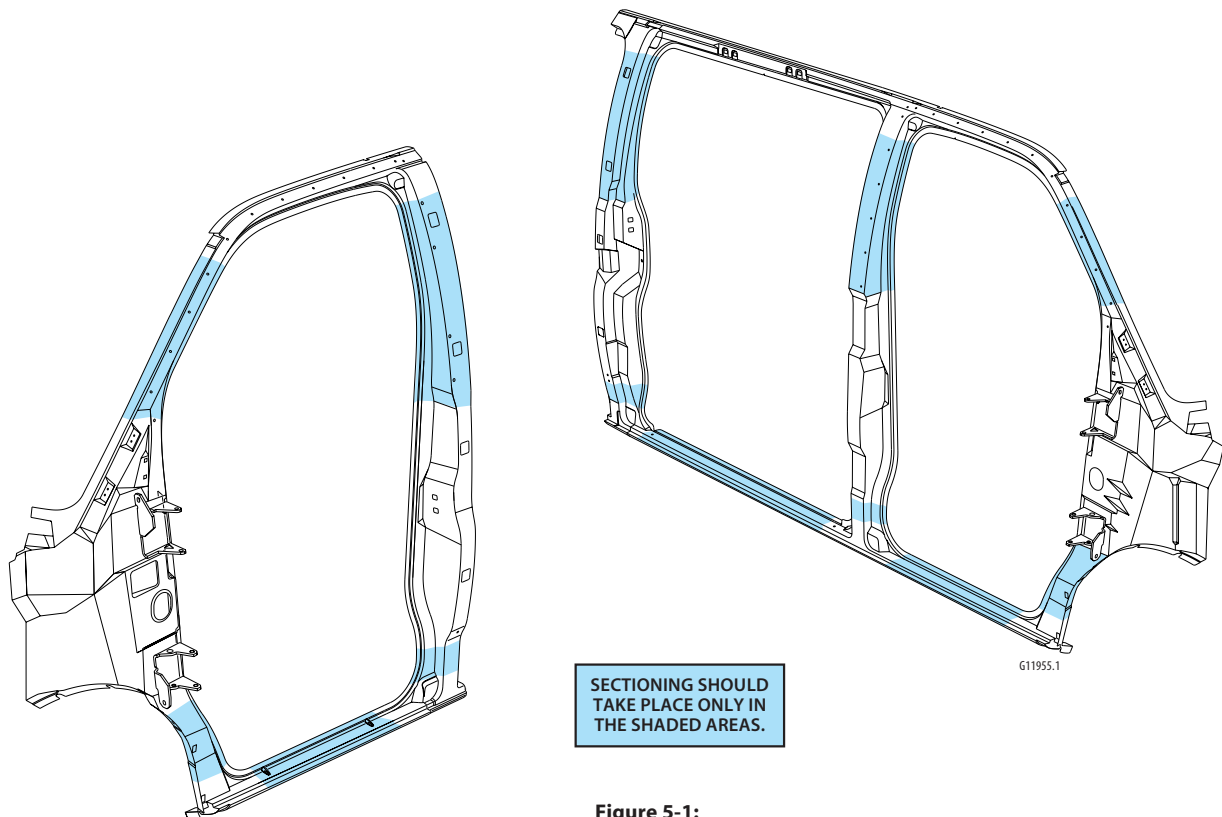

Figure 5-1:
Sectioning should take place only in recommended areas (figure 5-1). Failure to do so may compromise the structural integrity of the vehicle.
5. Cut the door frame opening where sectioning is to be performed (see figure 5-1). Do not damage the inner panels or reinforcements.